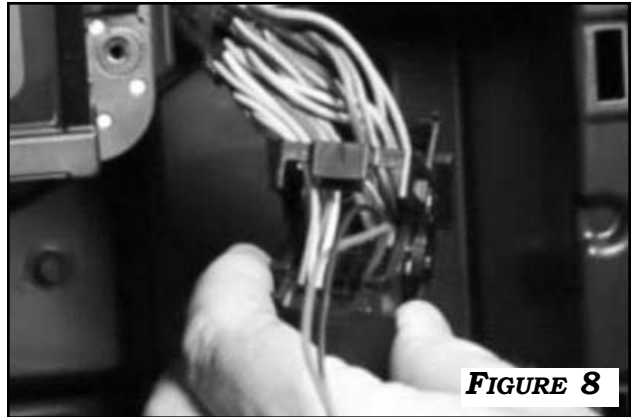

FIGURE 8
1. 13-CURRENT VEHICLES: REMOVE BLACK 52-PIN CONNECTOR HARNESS BEHIND THE RADIO DISPLAY ASSEMBLY. **FIGURE 8**